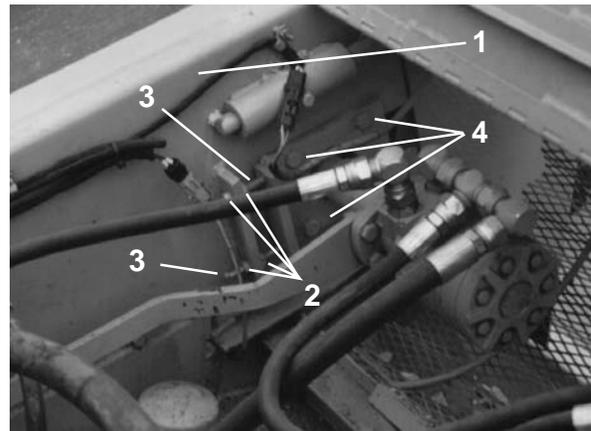

Figure 16. Conveyor Head Pulley Adjustment
2. Should it be impossible to obtain centered belt operation by adjusting the tail pulley (Fig. 15) it will then be necessary to adjust the head pulley as outlined below. (Fig. 16)